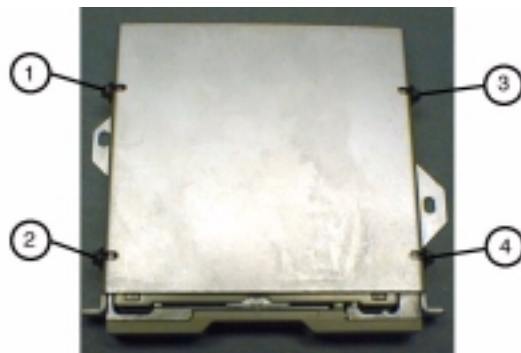

Figure 3-47. Removing the disk drive mounting bracket
- 7 Place the disk drive top side down on a flat, clean surface, and use the T-8 TORX driver to remove the four screws and washers fastening the disk drive mounting bracket to the disk drive. See ① through ④ in Figure 3-47 below.